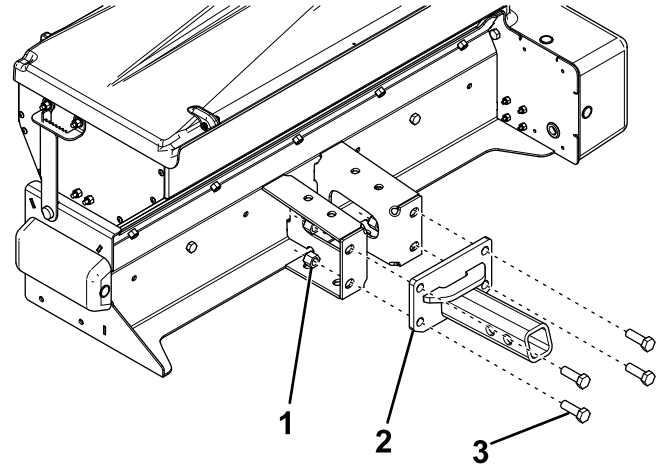
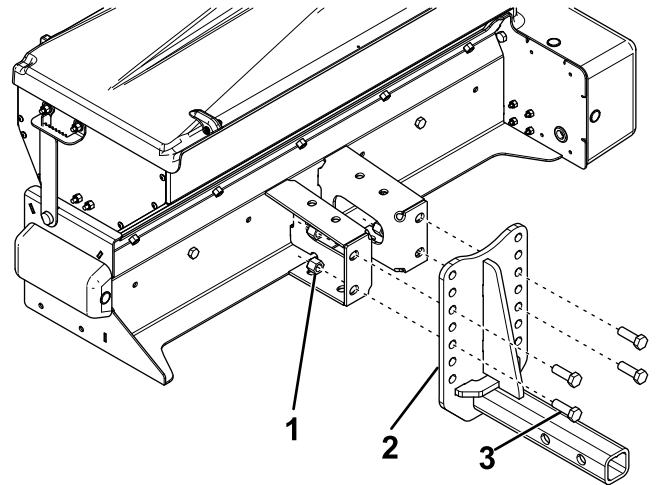

Figure 12
Figure 13
- Loosely attach the hitch to the spreader using 4 bolts (1/2 x 1-1/2 inch) and locknuts (Figure 12 and Figure 13).